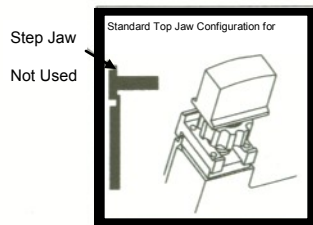

Fig. 2
- B. **The modern “step” jaw way.** Loosen the knurled knob securing the top vise jaw in place and flip the top jaw over to the step jaw side. Retighten the knurled knob securing the top vise jaw. You must do both vise jaws for this to work. See figure 2 & 2A.